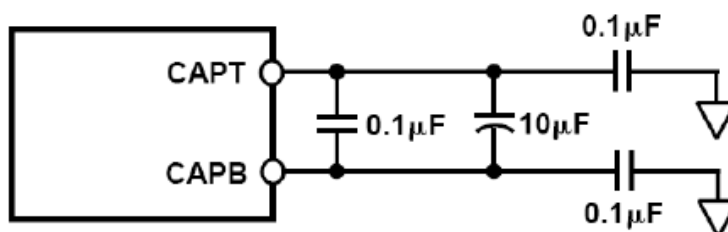

Figure 7-6. Recommended CAPT/CAPB Decoupling Network
The actual reference voltages used by the internal circuitry of the B9240MQRH appear on the CAPT and CAPB pins. For proper operation when using the internal or an external reference, it is necessary to add a capacitor network to decouple these pins. Figure 7-6 shows the recommended decoupling network. This capacitive network performs the following three functions: (1) along with the reference amplifier, A2, it provides a low source impedance over a large frequency range to drive the A/D